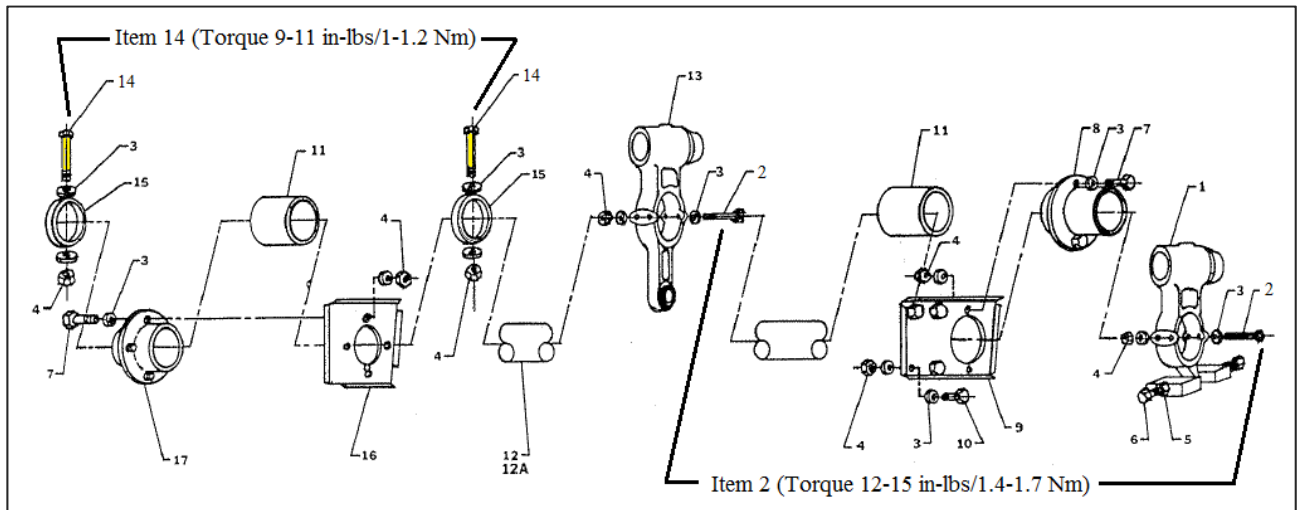
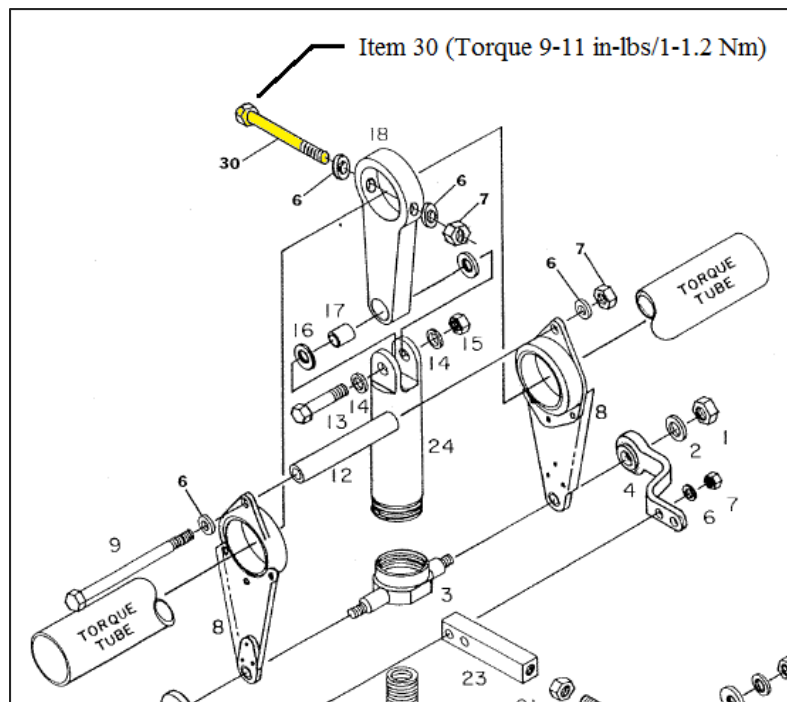

Figure 1. F-28/280 Series Illustrated Parts Catalog, Figure 8-15
Figure 2. F-28/280 Series Illustrated Parts Catalog, Figure 8-11
- 6.2.4 (Figure 2) Disconnect the brackets (4) from the retainers (8) by removing washers (6) and nuts (7) from the capsule pivots (3).
- 6.2.7 Remove the through bolts (14) (Figure 1) on the collective sleeves (15) (Figure 1) and the spring capsule bellcrank (18) (Figure 2).
- 6.2.9 Remove the copilot's collective socket (13) through bolts (2) (Figure 1).
- 6.2.10 Remove the bearing housing (17) on the copilot side of the torque tube (12) (Figure 1).
Do not overtorque the bolts through the sleeves and the collective bellcrank (Figure 1, Item 14 and Figure 2, Item 30), as this will cause binding. Torque to shear nut torque (9-11 in-lbs/1-1.2 Nm).
For all bolts connecting the collective stick socket to the torque tube (Figure 1, Item 2), initially torque to shear nut torque (9-11 in-lbs/1-1.2 Nm). Torque to full torque (12-15 in-lbs/1.4-1.7 Nm) after all components are reinstalled and check that there is no binding and that the torque tube moves freely.
- 6.2.15 Check that there is no binding or stiffness in the system, then torque the collective stick socket bolts (Figure 1, Item 2) to full torque (12-15 in-lbs/1.4-1.7 Nm). Verify again that there is no binding or stiffness in the system.